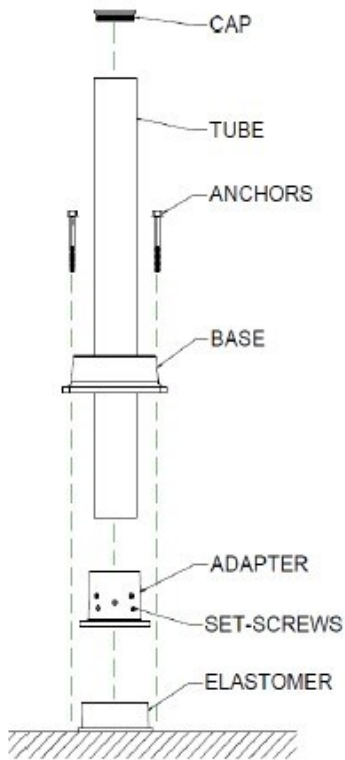

Figure 1
4. Study Figure 1 to understand the arrangement of all parts.